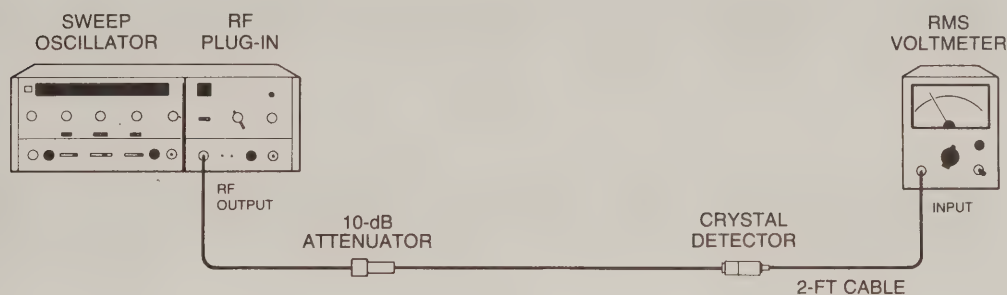

Figure 4-10. Residual AM Test Setup
- a. Connect equipment as shown in Figure 4-10. Allow 30 minutes warm-up time. Set controls as follows: